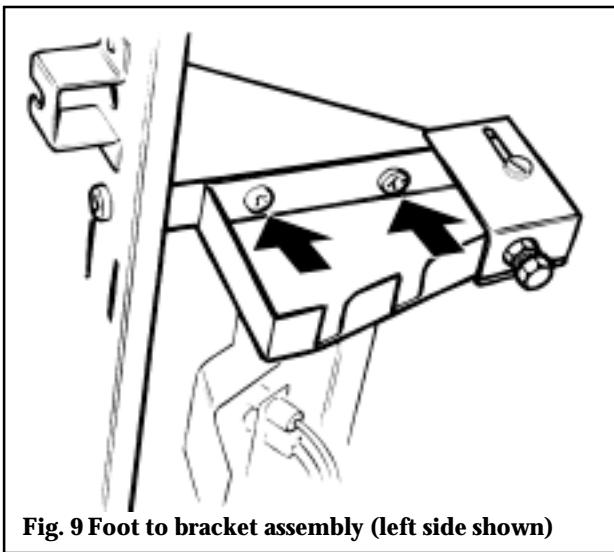

Fig. 9 Foot to bracket assembly (left side shown)
3.3.9.2 Fit the feet to the underside of the appliance feet mounting brackets (See figure 9).